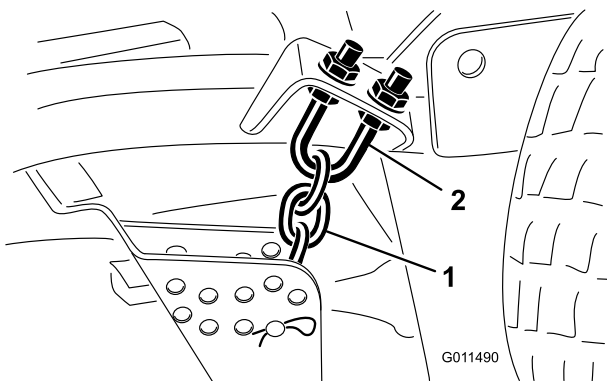

Figure 79
- Loosen the jam nuts at the top or bottom of the height-of-cut chain U-bolt (Figure 79).